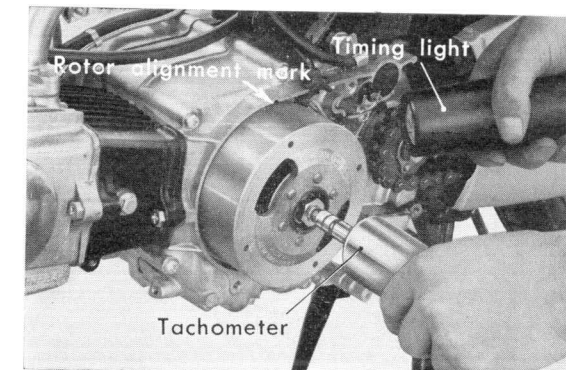

Figure 6-8. Adjusting the ignition timing advance
- Upon completion of the point gap and ignition timing adjustment, check for proper operation of the spark advancer with a timing light. (Fig. 6-8)